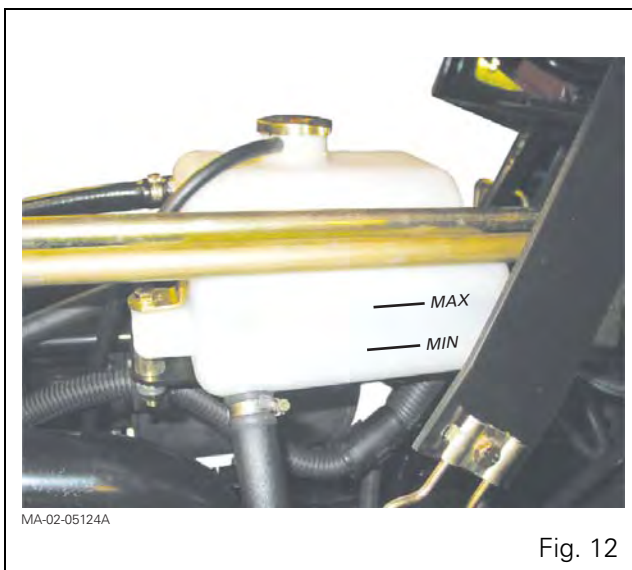

Fig. 12
- coolant up to the maximum level marked on the expansion tank (Fig. 12).